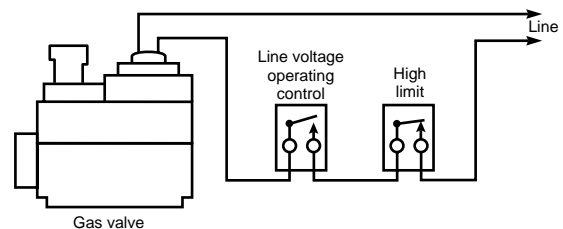

Figure 6. Wiring for 36C04A & 36C14A (120 Volt)
4. Depress gas control knob slightly and turn clockwise to **OFF** (see fig. 6). If knob is in **ON**, turn clockwise to **PILOT**, then depress knob slightly and turn clockwise to **OFF**.